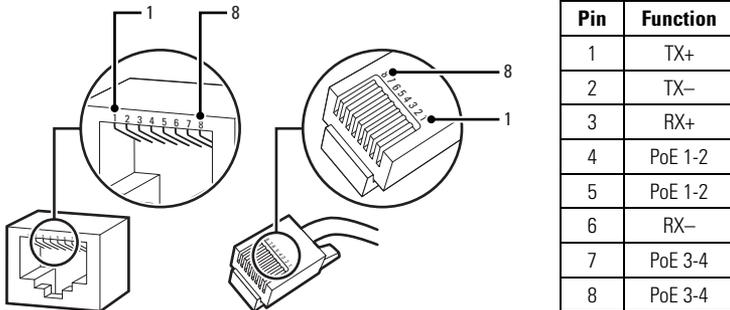

Figure 3. Pin Descriptions
- Connect the network cable to the RJ-45 network port located at the back of the camera (refer to Figure 3).